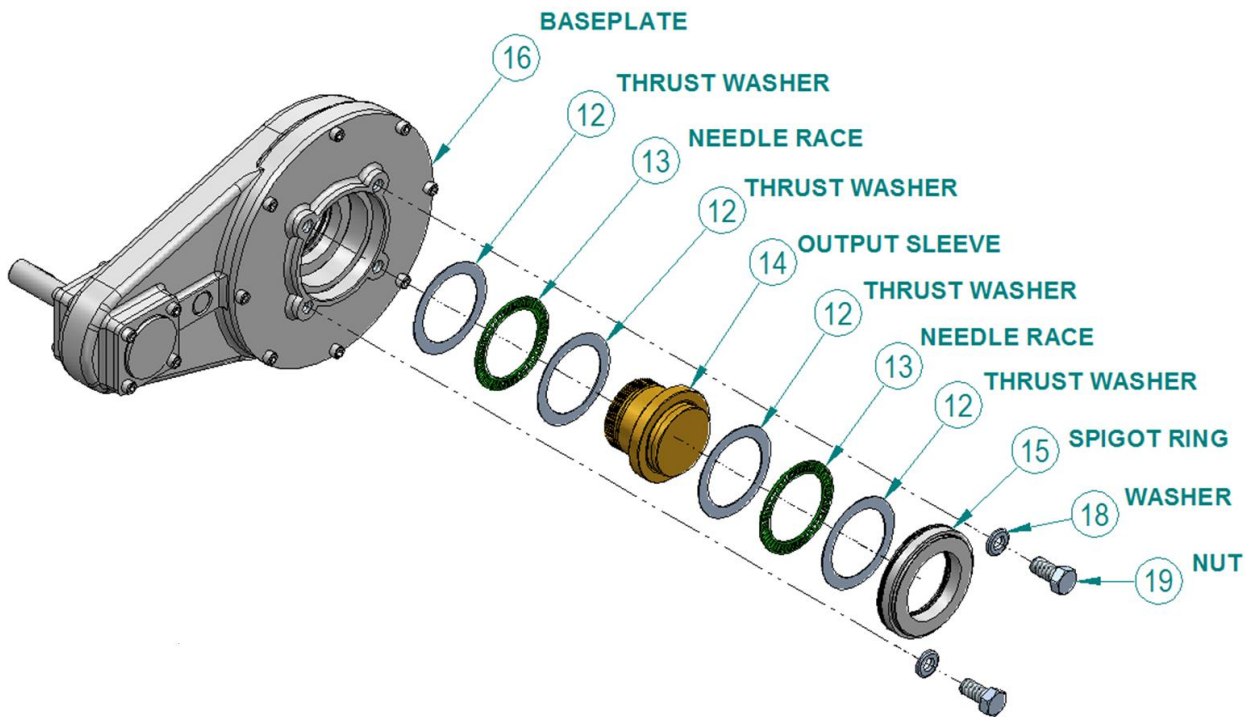
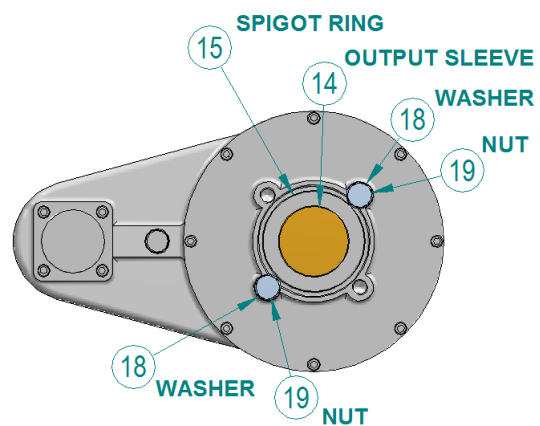

Figure 7 - IB / IS Output Sleeve Assembly
Figure 8 - Securing Spigot Example
Referring to Figure 7 below, note that the output sleeve arrangement is identical for IB and IS gearboxes. The sleeve (14) can be easily removed from the gearbox by first removing the spigot ring (15) from the baseplate (16). A small force may have to be applied to the face marked 'C' in Figure 6 to assist in removing the sleeve.
- ! **WARNING:** It is imperative that the thrust bearings in the output are fitted correctly, along with the output sleeve and the spigot ring. That is, the needle thrust bearings **MUST** have a thrust washer (12) at each side of the needle race (13). A bearing / washer assembly **MUST** be fitted at each side of the output sleeve thrust shoulder.
! WARNING – We recommend fitting a nut (19) and washer (18) fixture into the base of the gearbox as demonstrated in Figure 7 and Figure 8. Note that the washers must overlap the spigot ring (15). This will stop the output sleeve assembly from becoming detached from the main body. The bolts and washers are not supplied by Rotork Gears.